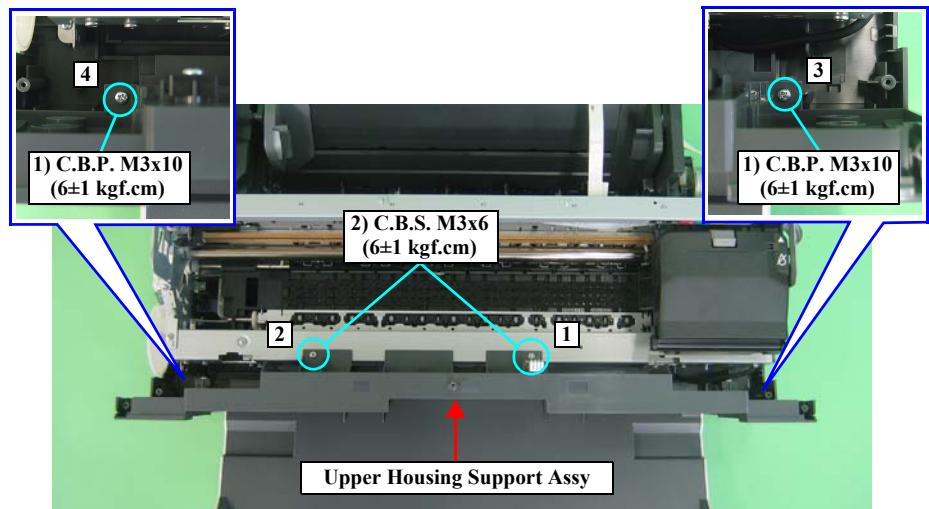

Figure 3-27. Removing the Upper Housing Support Assy
- Tighten the screws in the order shown in Figure 3-27.